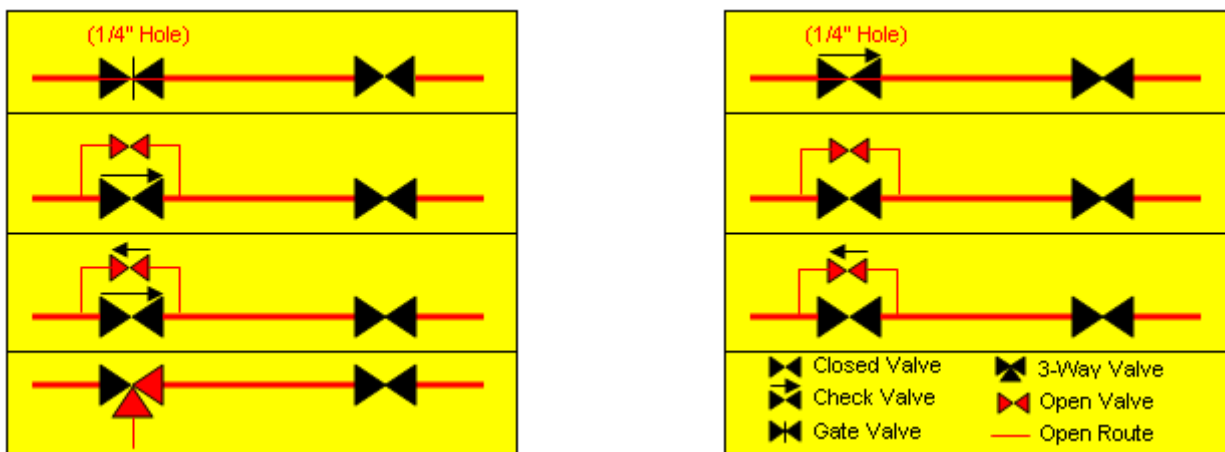

Figure 2 – design provisions for releasing the pressure due to thermal expansion
- The process designer can consider some provisions such as drilling a small hole in the check valve or block valve (if it is gate) or adding an open bypass around check valve or block valve if leakage through bypass is acceptable. Placing a check valve around one of the block valves is another alternative. The check valve is closed during normal operation and it will be opened when thermal expansion takes place. A three way valve can also be installed instead of one of the block valves (where applicable) to ensure that the piping system never becomes completely blocked-in. Above mentioned alternatives are depicted in Figure 2.